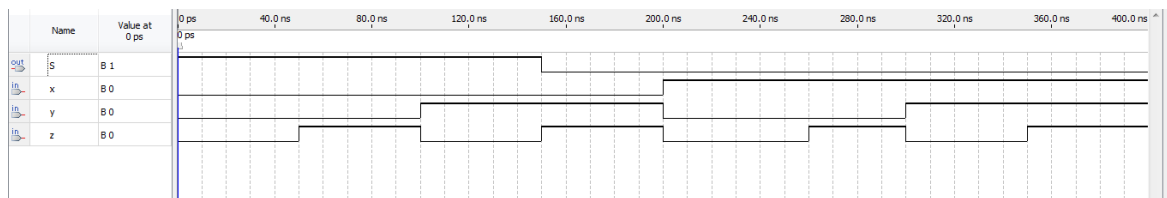

Fig. 15: Functional Simulation Result
- 5) Before running functional simulation **Analysis and Synthesis** is required. Therefore click on  on main Quartus II screen. Then click on  icon. Then output waveform will be observed in a new window. In Fig. 15, functional simulation result is shown.
As seen from Fig. 15, the simulation results are consistent with the truth table used while designing this circuit. The next phase is programming the FPGA.